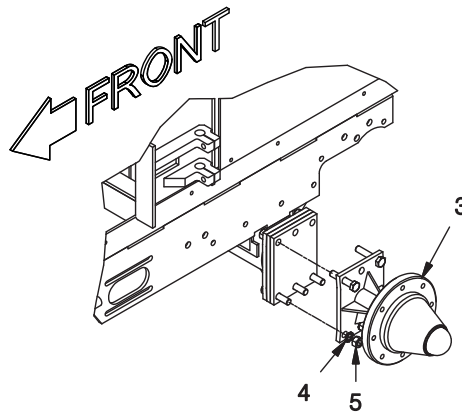

**Figure 1 - Mounting Spacer's**
A. Place (3) R13806355 Bolts through the axle as shown in Figure 1. Place (2) F000007636 Spacer as shown in Figure 1.